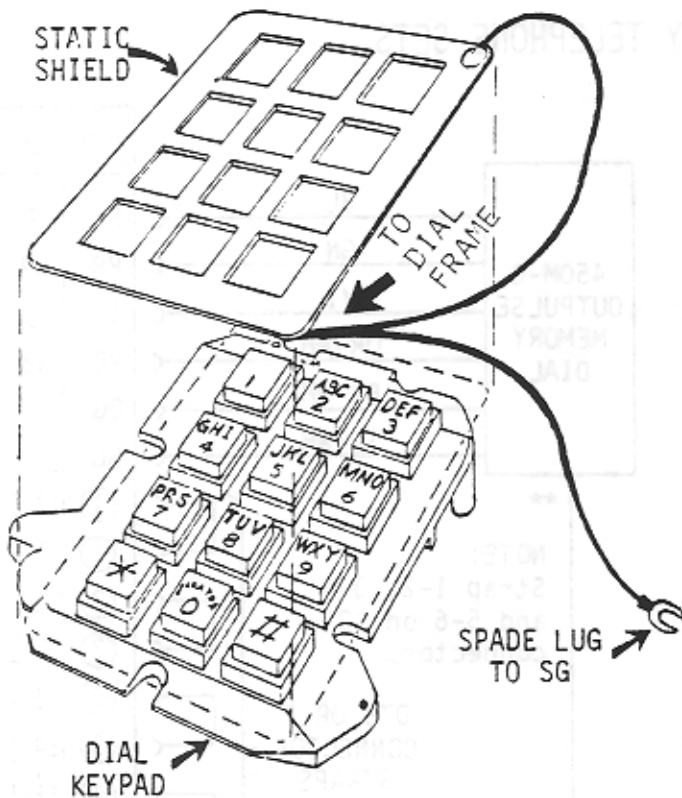

Figure 2 - Static Shield Arrangement
3.02 Figure 2 illustrates the shield mounting and grounding arrangement
- i) Connect the E-402 leads and the speakerphone compatible dial leads to the DTB in accordance with table 1. Refer to figure 2 in section -2 for terminal designations on the DTB board.